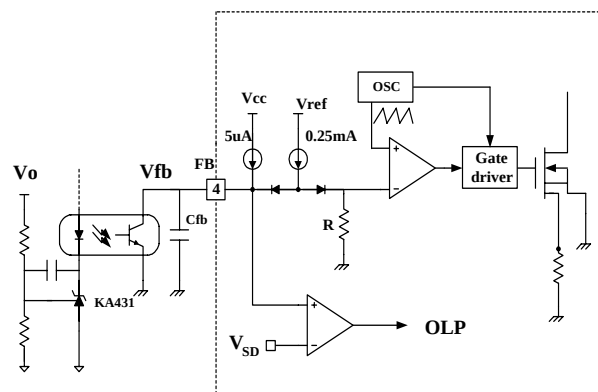
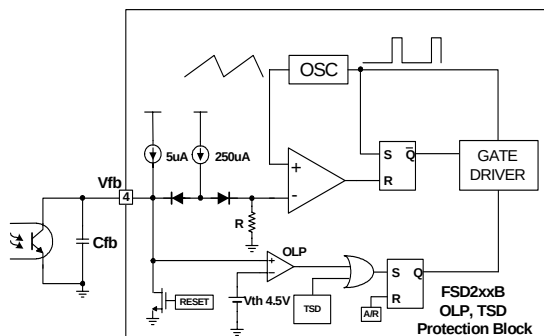

Figure 8. PWM and feedback circuit
Figure 9. Protection block
2. Feedback Control : The FSD200B/210B are both voltage mode devices as shown in Figure 8. Usually, a H11A817 optocoupler and KA431 voltage reference (or a FOD2741 integrated optocoupler and voltage reference) are used to implement the isolated secondary feedback network. The feedback voltage is compared with an internally generated sawtooth waveform, directly controlling the duty cycle. When the KA431 reference pin voltage exceeds the internal reference voltage of 2.5V, the optocoupler LED current increases pulling down the feedback voltage and reducing the duty cycle. This event will occur when either the input voltage increases or the output load decreases.
4.1 Over Load Protection (OLP) : Over load protection occurs when the load current exceeds a pre-set level due to an abnormal situation. If this occurs, the protection circuit should be triggered to protect the SMPS. It is possible that a short term load transient can occur under normal operation. In order to avoid false shutdowns, the over load protection circuit is designed to trigger after a delay. Therefore the device can differentiate between transient over loads and true fault conditions. The maximum input power is limited using the pulse-by-pulse current limit feature. If the load tries to draw more than this, the output voltage will drop below its set value. This reduces the optocoupler LED current which in turn reduces the photo-transistor current (see figure 9). Therefore, the 250uA current source will charge the feedback pin capacitor, Cfb, and the feedback voltage, Vfb, will increase. The input voltage of the feedback comparator (Vfb) is only charged from delay current source after the feedback current can not charge the feedback capacitor any more. Once the feedback is not charged from feedback current any more, the device switches at maximum drain current, the 250uA current source is blocked and the 5uA source continues to charge Cfb. And once Vfb reaches OLP(4.5V), switching stops, and overload protection is triggered. The resultant shutdown delay time, t_2 , is dependent on feedback capacitor and feedback delay current, in Fig. 8